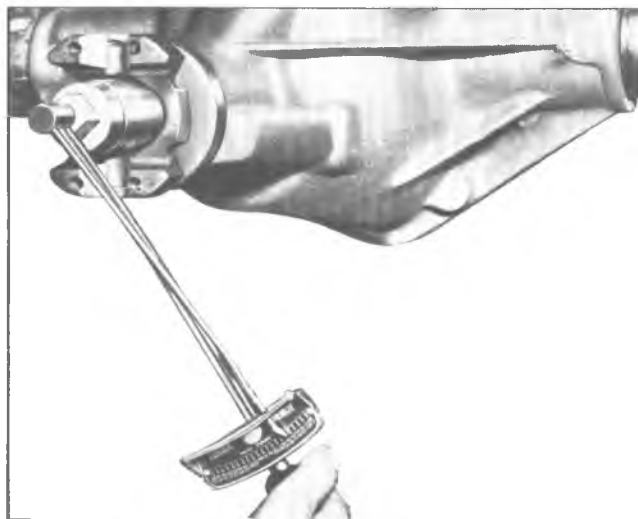

Fig. 57—Measuring Pinion Rotating Torque
4. Measure the torque required to rotate the pinion, as shown in figure 57. Record the torque for later reference.